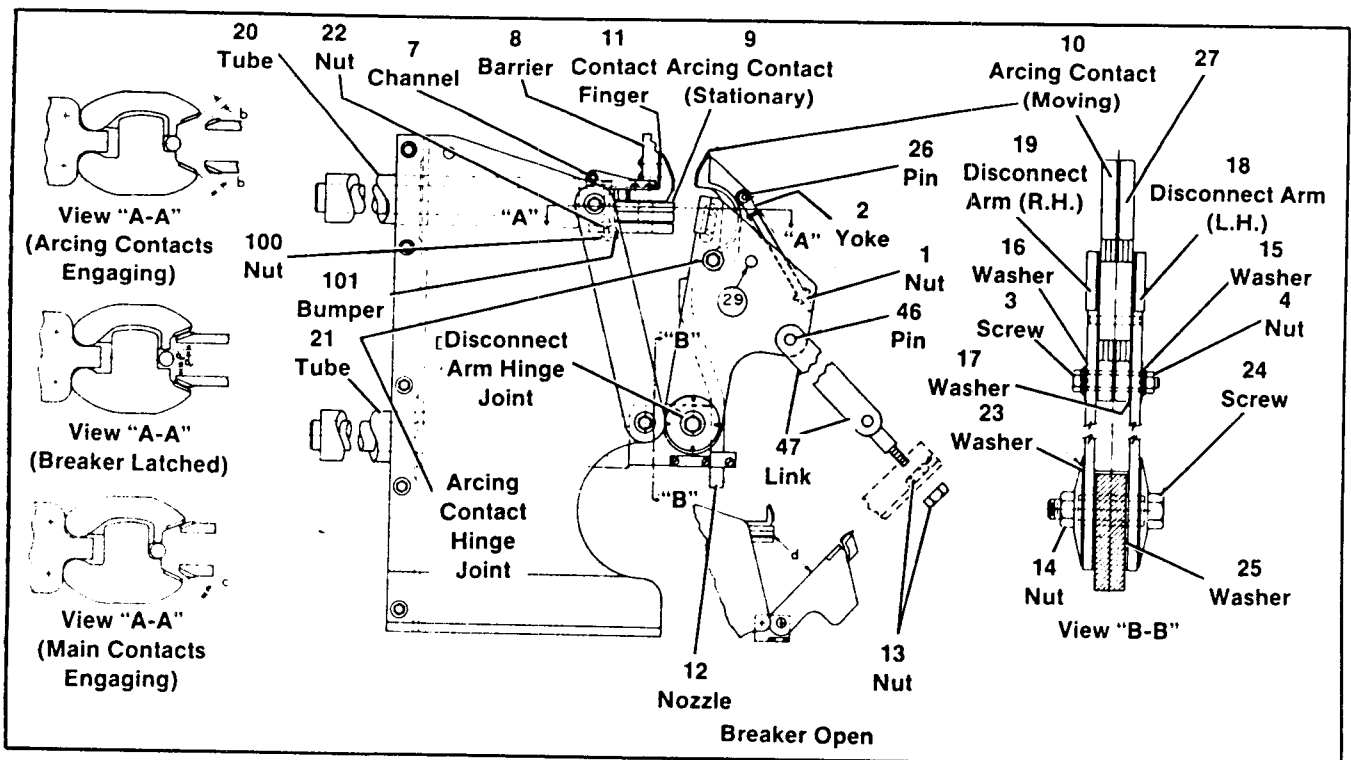
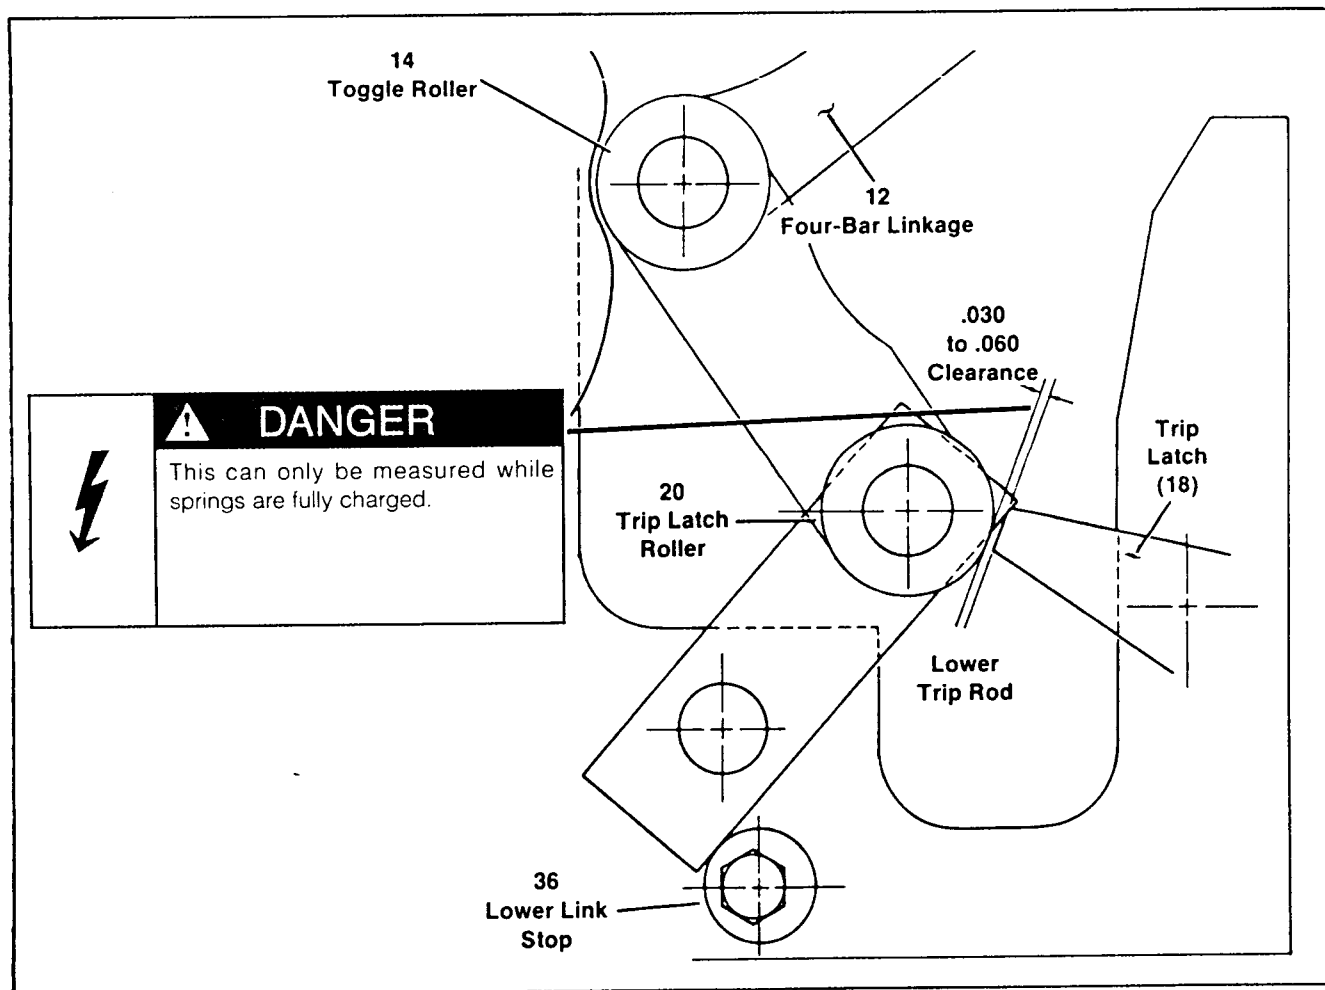

Figure 10. Stud and Support Assembly
Figure 11. Trip Latch Clearance Adjustment
A comparison of circuit breaker timing at any period of maintenance with that taken when the breaker was new will indicate the operational condition of the breaker mechanism. A time variance of more than $\frac{1}{2}$ cycle on opening and 2 cycles on closing indicates a maladjustment or friction buildup. A hole in the movable contact arm is provided for connection of a speed analyzer (29, Fig. 10)
This measurement is obtained as follows: (Fig. 10)
The arcing hinge joint (Fig. 10) is in proper adjustment when each spring washer (15) is deflected approximately 0.015 inches (0.4 mm).
Use these procedures if it becomes necessary to change contacts or reset contact alignment (refer to Fig. 10).
1. Push stationary contact fingers as far back (tap with soft mallet) as they will go on stud (11, Fig. 10).
2. Using maintenance closing procedure, move the disconnect towards the closed position until it touches a main contact finger (view A-A, Main Contacts Engaging, Fig. 10). Dimension "C" should be no greater than .020 (0.51 mm) with one contact touching.
3. Adjustment is made by removing two nuts (100) and bumper assembly (101), loosening two nuts (22) and rotating the entire contact assembly. Check alignment (dimension "C") after nuts (22) are tightened. Install bumper (101) and nuts (100). Tighten securely.
4. Alignment is checked and adjusted on each phase separately. Be sure there is no binding between contacts (11) that could prevent wiping action with the disconnect arm.
2. Using the maintenance closing procedure, slowly move the disconnect arms toward the closed position until a dimension of $1/4" \pm 1/32$ (6.4 \pm 0.8 mm) can be measured between the lower stationary main fingers and the disconnect arms of the closest phase. (See Fig. 10 dim.
Dimension "d" (Breaker Open illustration of Fig. 10) is measured between the disconnect arm and the bottom of the second finger in the main contact assembly. The open position is determined by the setting of the rod end (40, Fig. 2) at the top of the puffer piston rod. The rod end (if set too low) can affect the trip latch roller clearance (Fig. 11). The optimum setting is to obtain the maximum open contact gap "d" while maintaining the specified trip latch roller clearance (see trip latch adjustment page 14). A dimension "d" of less than 5-11/16 in. (144.5 mm) indicates improper adjustment.
TRIP LATCH CLEARANCE ADJUSTMENT (FIG. 11)
Loosen Lower Link Stop (36, Fig. 11) and rotate to permit max-